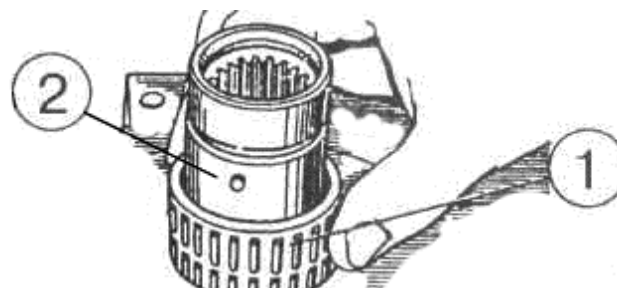

Figure 4.30
- j) remove bearing 1 (Figure 4.30) from shaft 2;